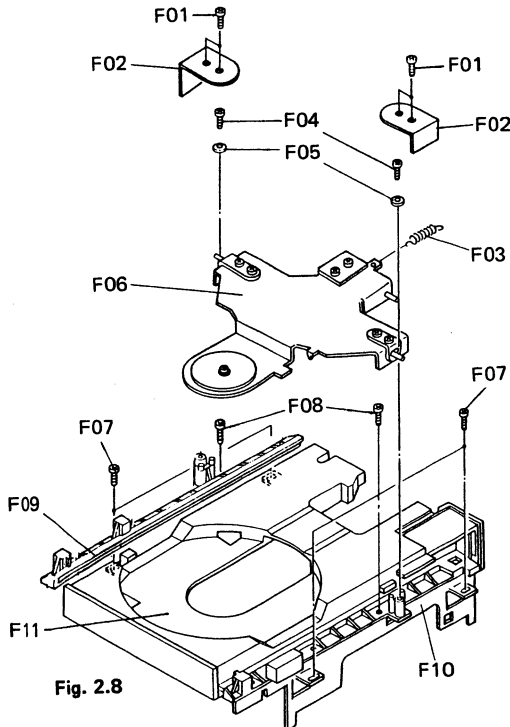

Fig. 2.8
- (1) Refer to Fig. 2.8.
- (2) Remove the Front Panel Ass'y referred to in item 2.3.
- (3) Remove F01, then F02 (Chuck Arm Plate), F03 (Chuck Arm Spring), F04 and F05 then F06 (Chuck Arm Ass'y).
- (4) Remove F07 and F08, then F09 (Disc Drawer Guide L), F10 (Disc Drawer Guide R), then F11 (Disc Tray Ass'y).